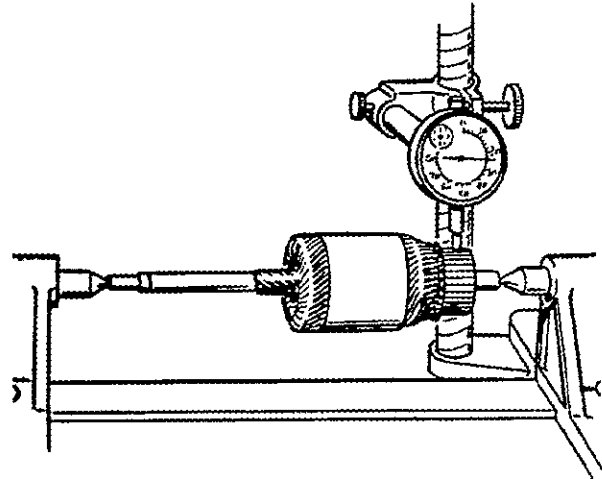

FIGURE 50. CHECKING COMMUTATOR RUNOUT
**Testing Commutator Runout:** Place the commutator in a test bench and check runout with a dial indicator (Figure 50). When commutator runout exceeds .004 inch, relace the commutator.